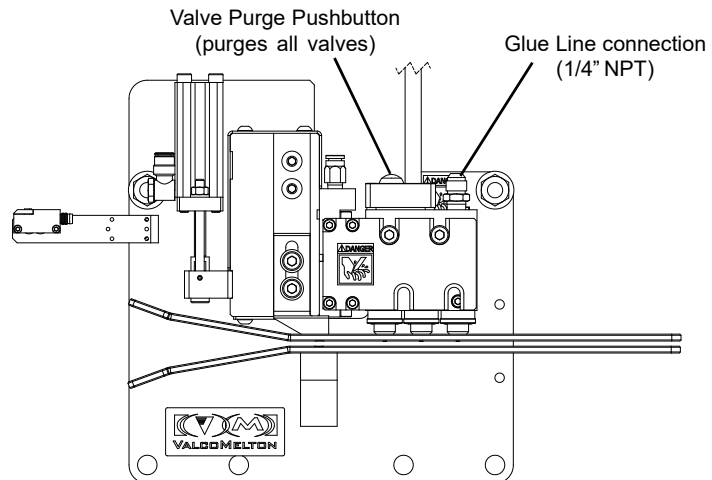

Figure 4-4. Glue Line connection and Valve Purge Pushbutton
6. Purge the valve by activating the push button switch on the manifold (Figure 4-4).